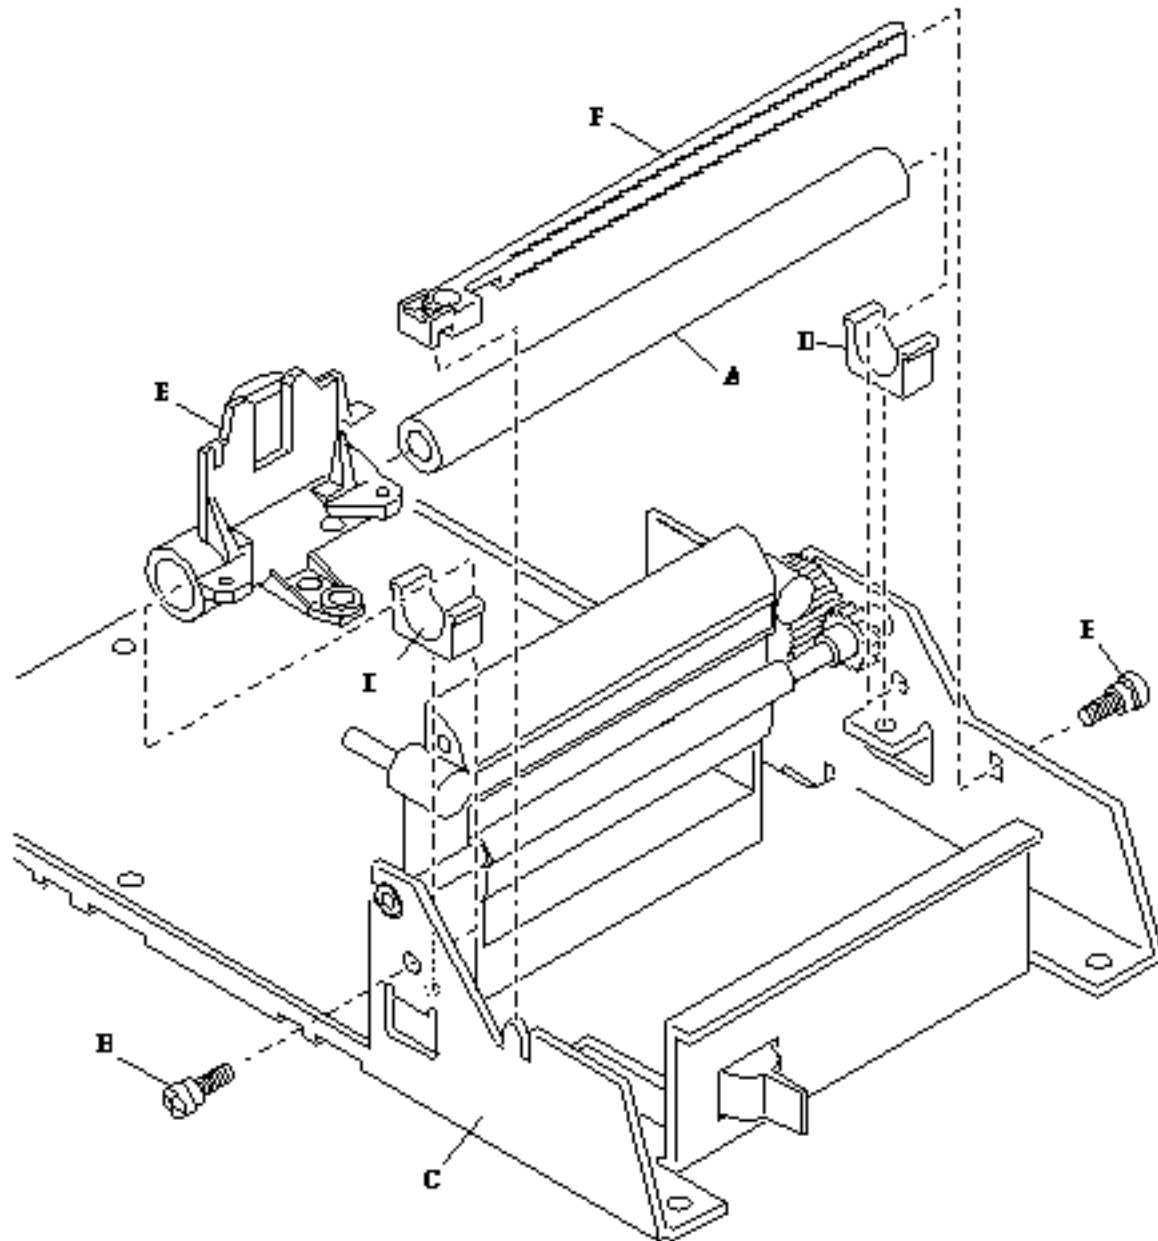

Figure 26: Carriage Shaft Bearing and Space Rack
Note: After the Space Motor Assembly has been reinstalled, check the spacing between the Space Motor Assembly and the Space Rack (see F, Figure 26). Adjust the space to .012 inches with a Thickness Gauge. Loosen the two screws (G) as needed to make the adjustment.